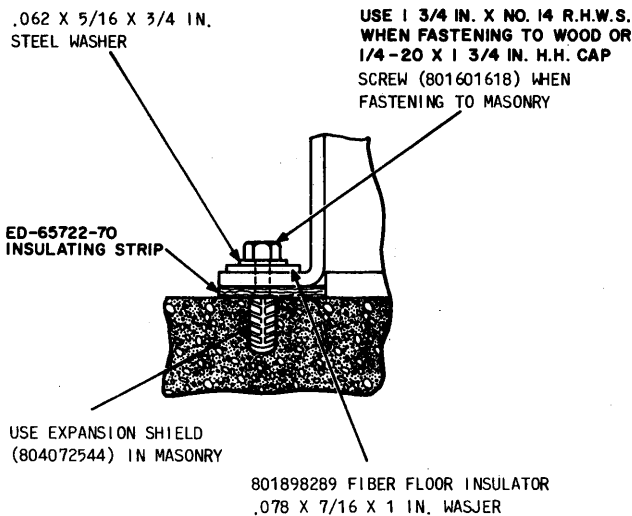

Fig. 16—Fastening the PBX to the Floor
3.06 The PBX should be fastened to the floor as shown in Fig. 16 and should stand approximately level.